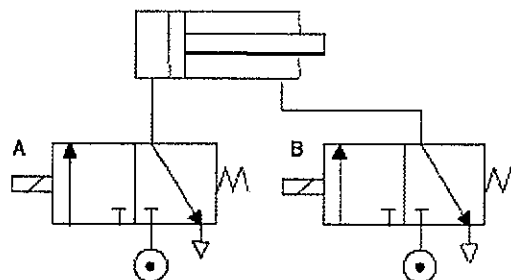

Figure A2(a) / Rajah A2(a)
- (a) Visualise the pneumatic system in Figure A2(a) when solenoid valve A is energised, and solenoid valve B is de-energised.